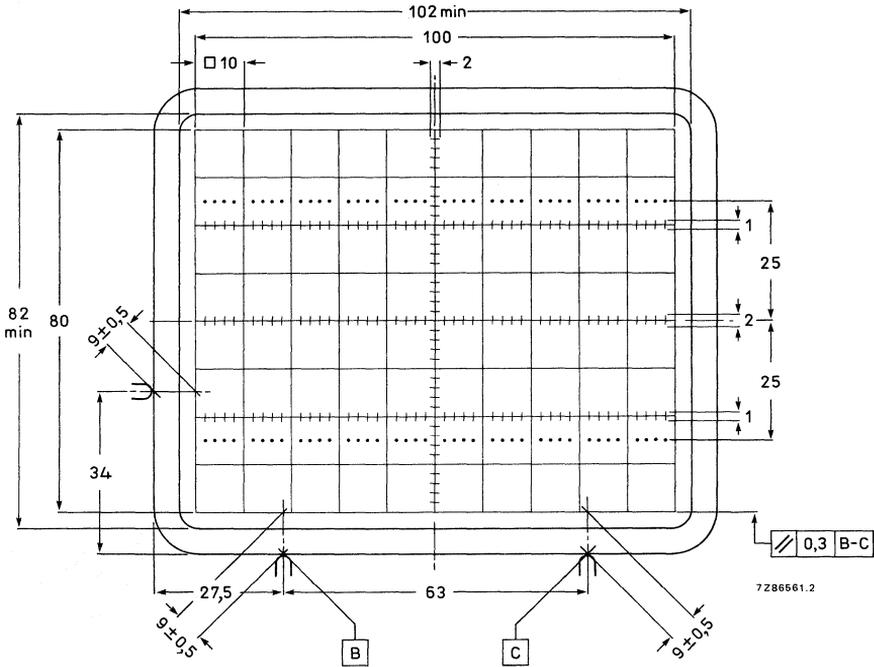

Fig. 5 Front view of tube with internal graticule, type 93. The faceplate reference points are used for aligning the graticule with the faceplate.
Fig. 5 Beam current ( $I_{bx}$ ) and focusing voltage ( $V_{g3}$ ) as a function of grid drive voltage ( $V_d$ ) at  $V_{g7} = 16,5$  kV,  $V_{g5} = 2,2$  kV; typical curves.
Internal graticule	type 93; see Fig. 5
The tube can be mounted in any position. It must not be supported by the socket and not by the base region alone. The reference points on adjoining edges of the faceplate (see Fig. 5) enable the tube to be mounted accurately in the front panel, thus providing optimum alignment of the internal graticule.
4. Reference points on faceplate for graticule alignment (see Fig. 5).